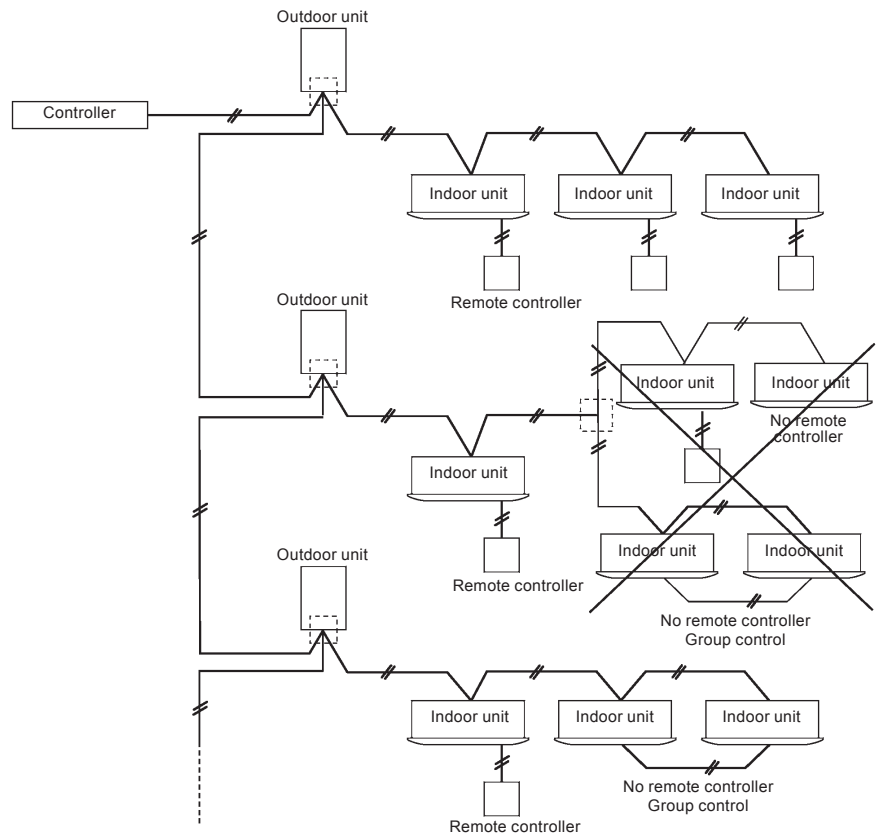

Figure 9
- A branch after the branching of a wire is prohibited. (Figure 9)
- ⑤ Branches after branching (branching of location that cannot be branched in a single stroke) are prohibited. (Figure 9)